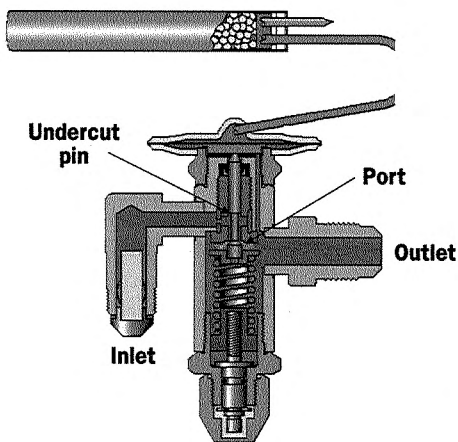

Figure 4
► **Balanced-ported valves.** With a conventional TXV, the pressure differential across the valve results in a force that tends to “open” the valve. As operating conditions vary, this pressure differential changes and results in a variation of the original superheat. Engineers have developed the balance-ported TXV to compensate for this (Figure 4).